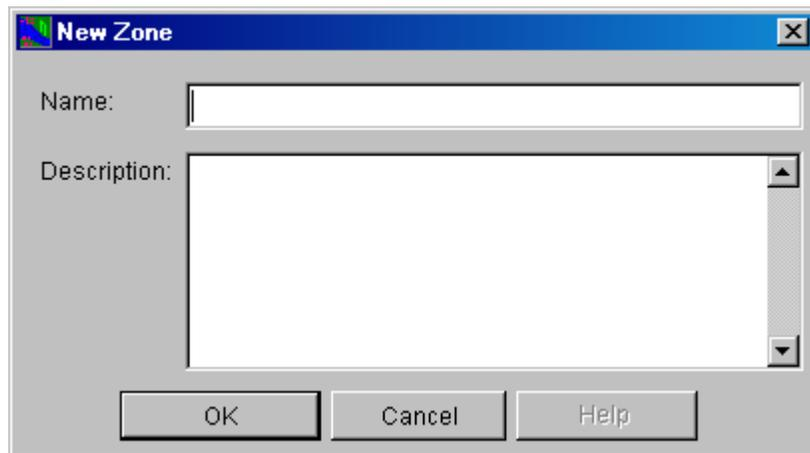

Figure 11.7 New Zone Dialog Box
1. Select **New** from the **Zone** menu of the Reservoir Editor. The **New Zone** dialog box will open (Figure 11.7).